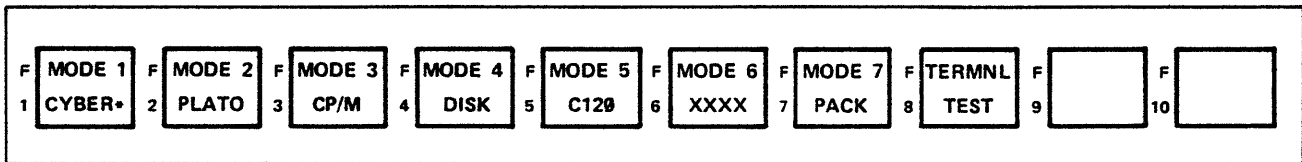

Figure B-2. Mode Select Menu
2. Apply power to the terminal and all related peripheral equipment. The terminal performs brief internal diagnostics tests and, if mode selections are unchanged from factory-set parameters, displays (figure B-2):
If the display in figure B-2 does not appear after the terminal has had ample time (1 minute) to warm up, the existing mode selection parameters are changed from the factory-set parameters. To attain the mode select menu display, press the SETUP key, and then press the F10 function key twice. If the mode select menu still does not appear, refer to the 721 Operator's Guide/Installation Instructions manual listed in the preface.
12. Return to Mode Select Menu display (figure B-2) by pressing the F1 function key. GRFX, or an alternative name chosen in step 9, appears under MODE 6 in the F6 parameter box (or in the parameter box corresponding to the alternative mode selected in step 8).